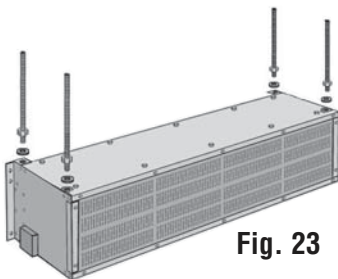

Fig. 23
3. Place a hex nut $\frac{3}{4}$ " from one end of each threaded rod. Place a washer onto each rod and screw the (4) four threaded rods into the four mounting holes. They should not extend more than $\frac{3}{4}$ " into the unit. (See Fig. 23)